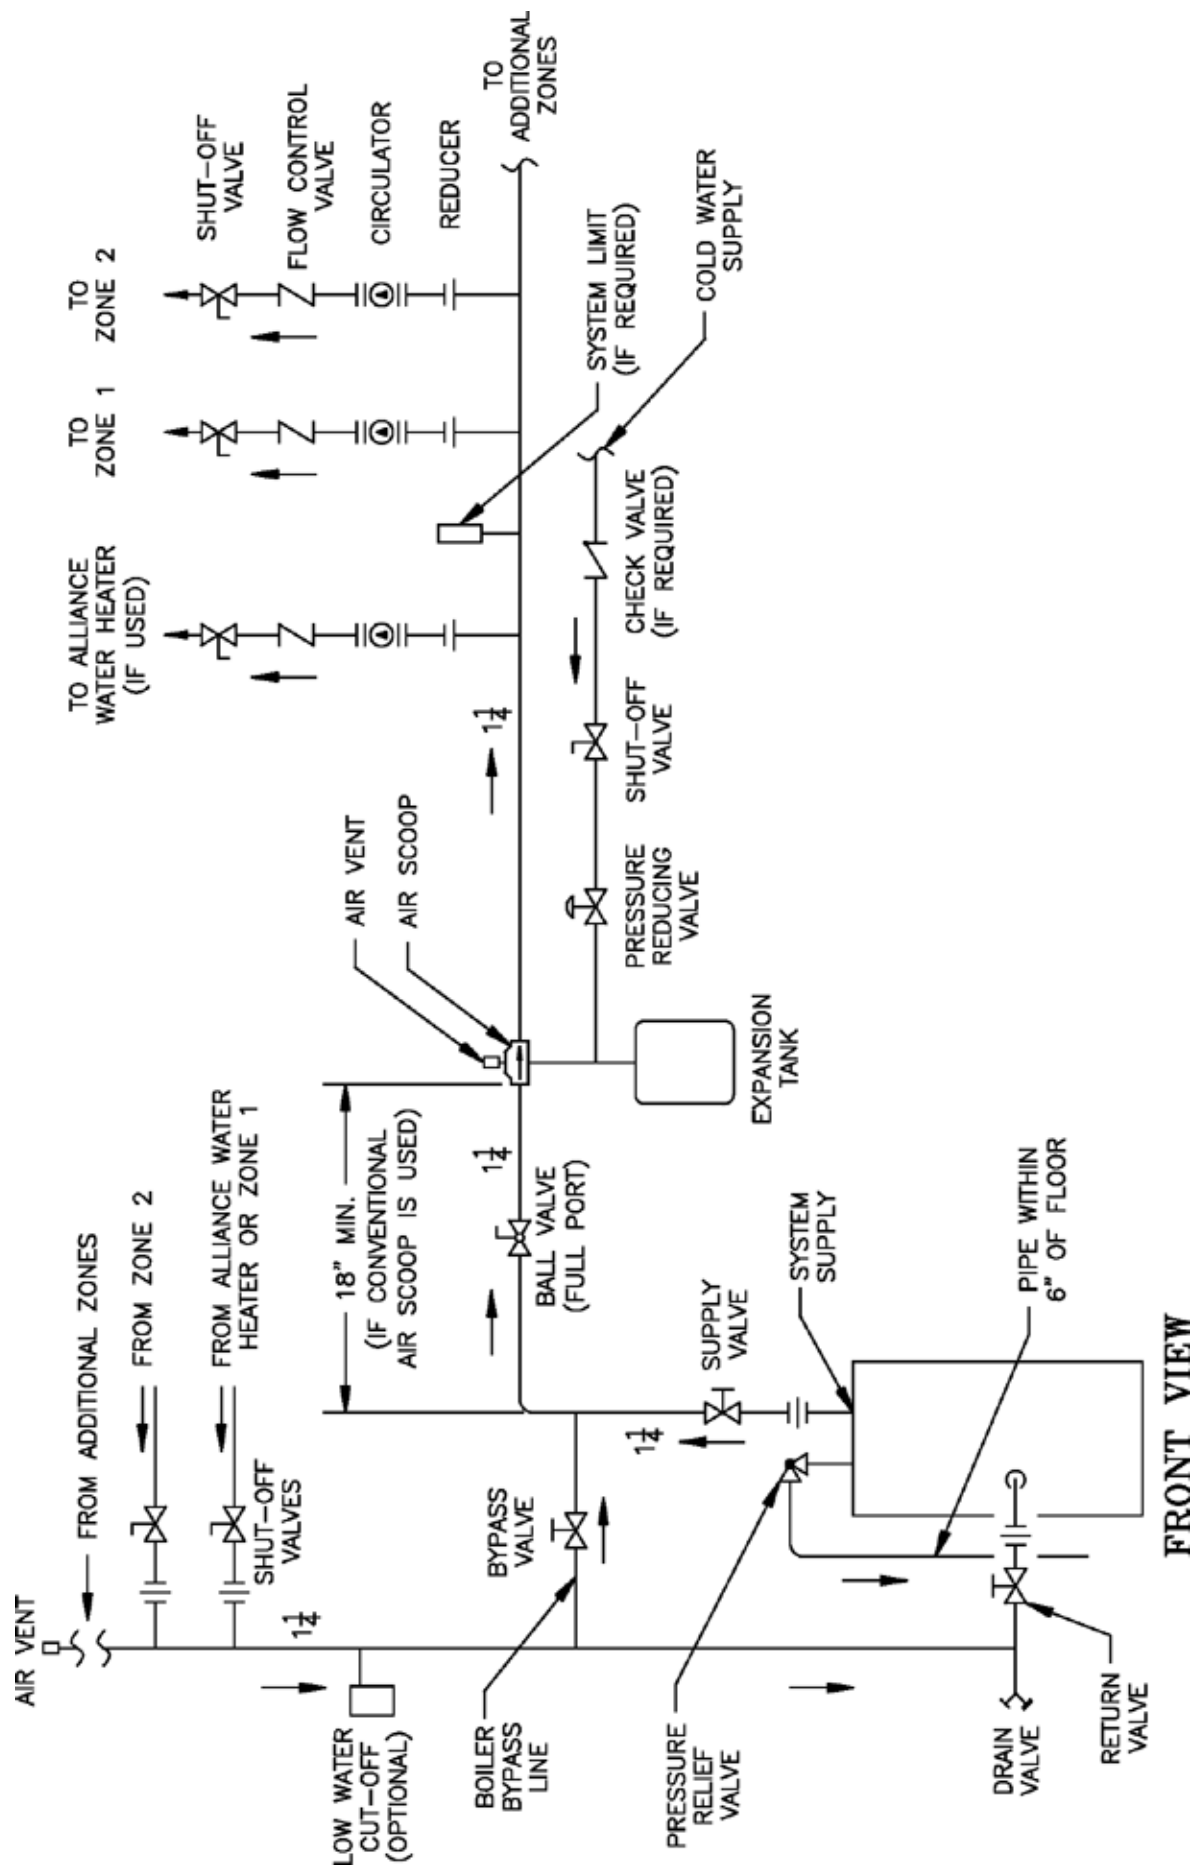

Figure 8: Recommended Water Piping for Circulator Zoned Heating Systems
3. Connect System supply and return piping to boiler. See Figures 8 and 9. Also, consult I=B=R Installation and Piping Guides. Maintain minimum ½ inch clearance from hot water piping to combustible materials.
and return line as illustrated in Figures 8 and 9 in order to regulate water flow for maintenance of higher boiler water temperature. Set the bypass and return valves to a half throttle position to start. Operate boiler until the system water temperature reaches its normal operating range. Adjust the valves to maintain 180°F to 200°F boiler water temperature and greater the 120°F return temperature. Adjust both valves simultaneously. Closing the boiler return valve while opening the bypass valve will raise the boiler return temperature. Opening the boiler return valve while closing the by-pass valve will lower the boiler return temperature.
- B.** Install Safety Relief Valve. See Figures 8 and 9. Safety Relief Valve must be installed with spindle in the vertical position. Installation of the relief valve
- C.** Install Drain Valve in return piping. See Figures 8 and 9.